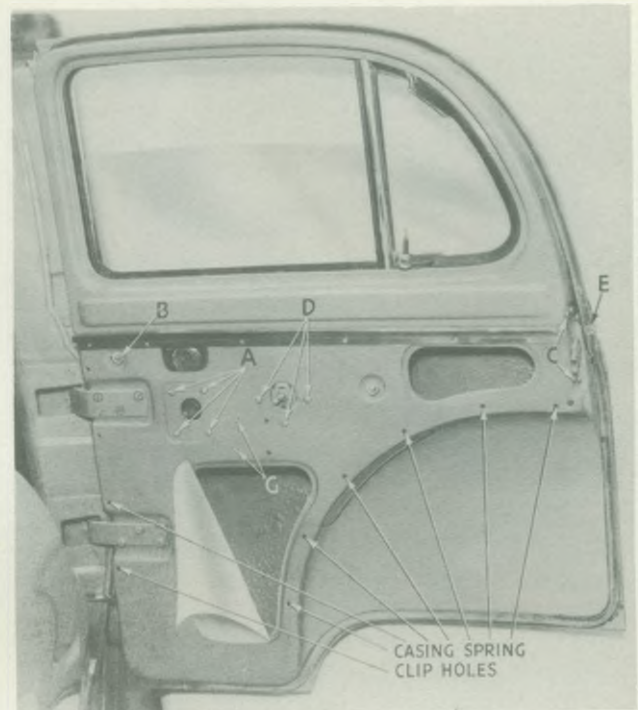

Fig. 10. Rear door with casing removed
2. Remove door casing by pulling it downwards to disengage it from the top chrome finisher strip, after removal of visible fixing screws and freeing the spring clips which fit into holes in the inner door panel. See Fig. 10 for the location of these holes.
4. Remove the four screws (marked "A" in Fig. 10) securing the window regulator mechanism
7. Remove screws "G" (in Fig. 10), securing the drop light "stop" to the inner door panel, and rock drop light inside door body to gain access to the bifurcations holding the outer waist weather strip which must next be removed.
10. The "hinge pillar and top" glass channel (which are all in one piece) can be extracted through the large lightening hole (in a similar manner to that employed for front door, as shown in Fig. 8), after removing the screw marked "B" in Fig. 10.
13. The door locking mechanism can be withdrawn after removing the four screws marked "C" and the three marked "D" (on Fig. 10), which release the Schonitzer Door Lock and the Remote Control Unit respectively. Finally, if it is required, the exterior door handle can be removed after taking out the screw (marked "E") located underneath the door sealing rubber.